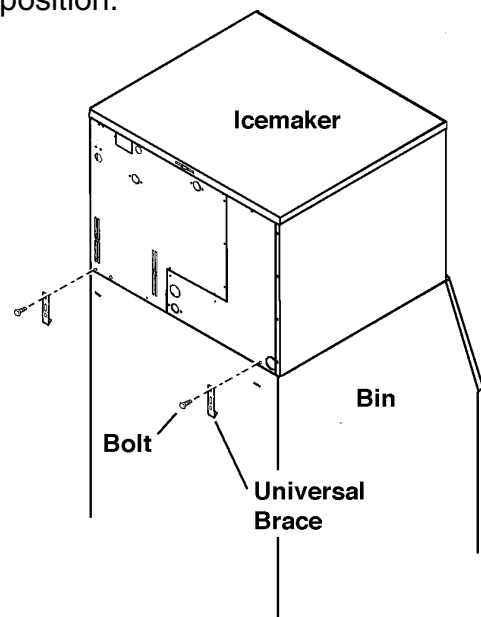

Fig. 2
- 4) Secure the icemaker to the Storage Bin, using the two Universal Braces and the two bolts provided. See Fig. 2